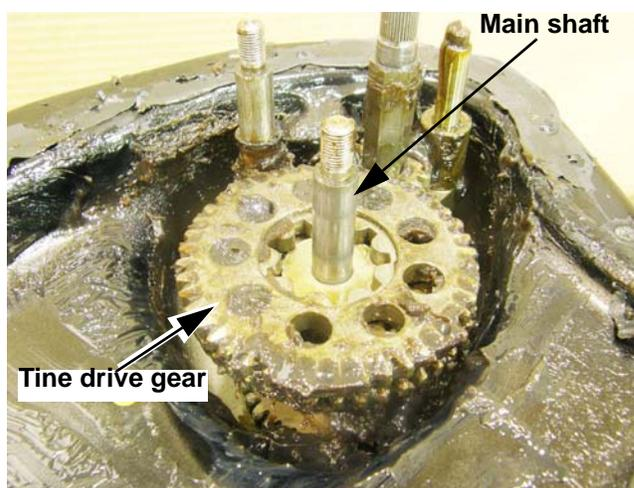

Figure 5.39
4. Lift the tine drive gear off of the main shaft. See Figure 5.39.